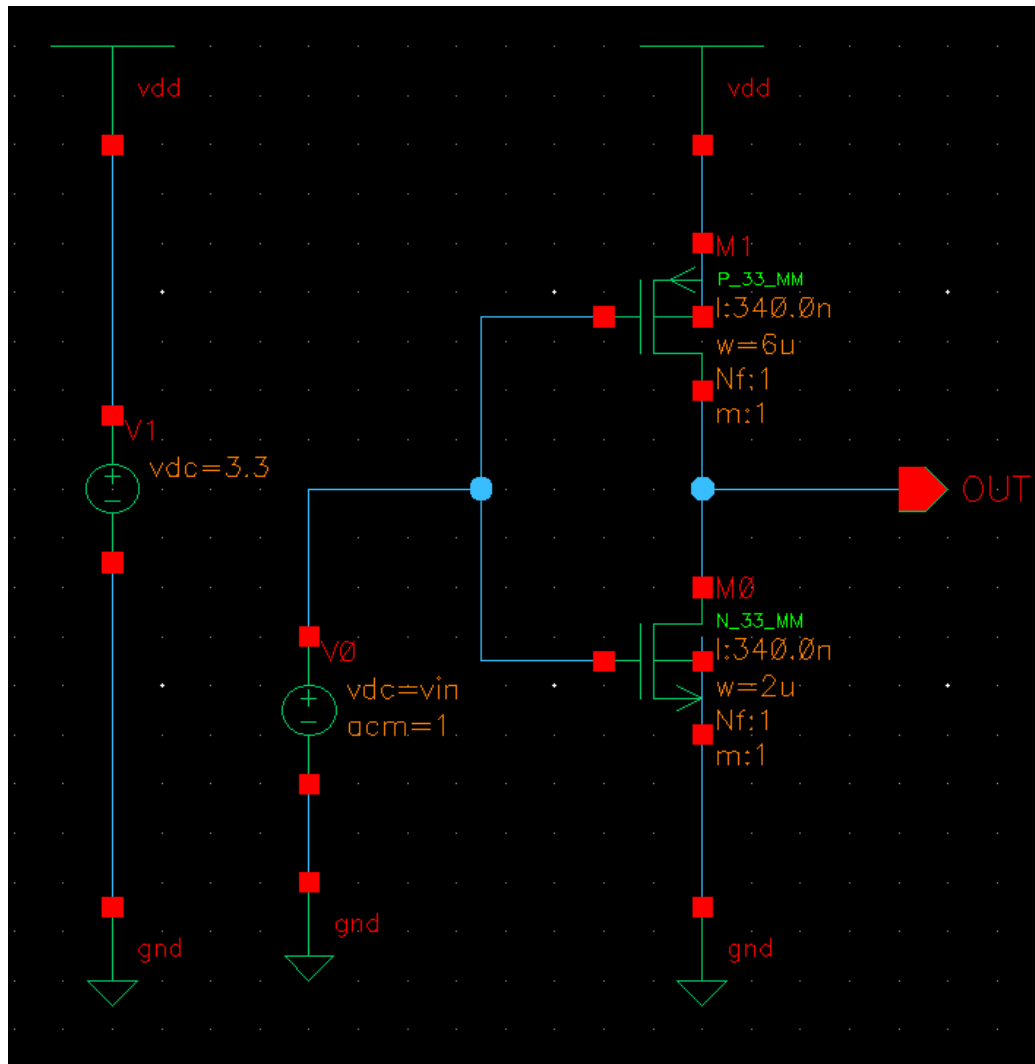
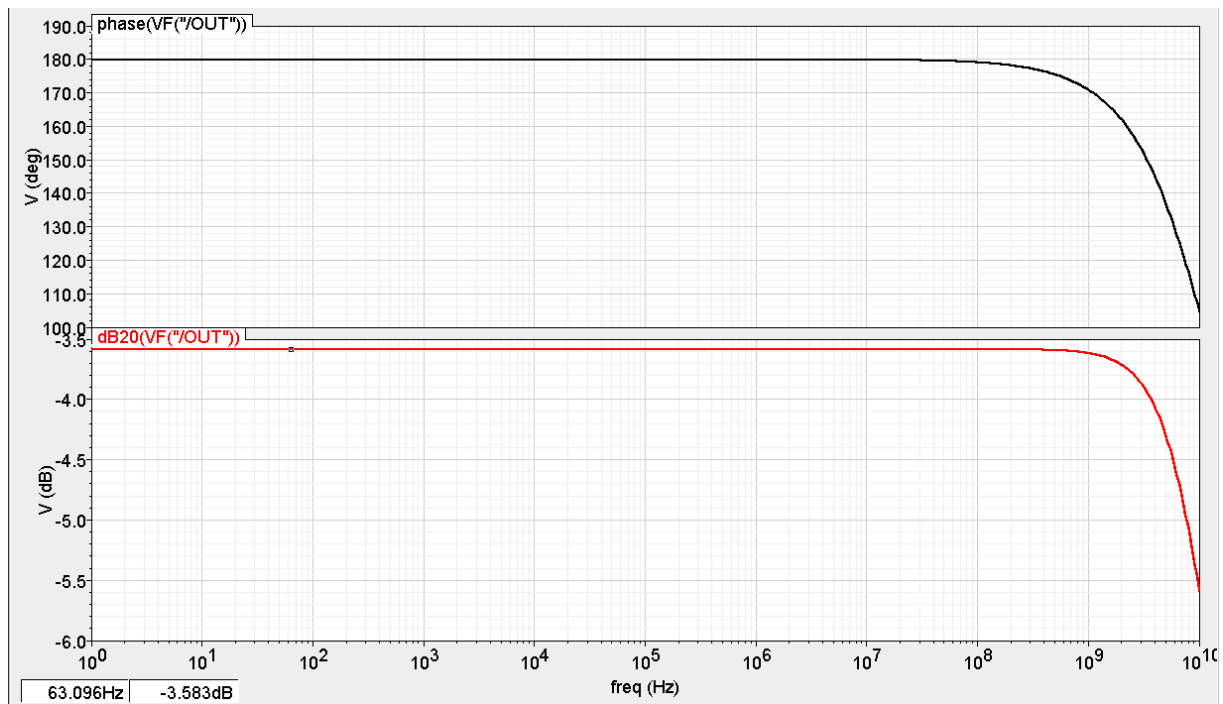

Figure 10: Schematic of an inverter circuit
Figure 13: AC response of the inverter circuit
At this part of the tutorial, information about how you can observe the AC response of the circuit is going to be explained. Figure 10 shows the schematic of an inverter circuit. Let's step by step see how we can observe AC response of this circuit.
6. You should see a waveform similar to the Figure 13 which is the ac response of the inverter circuit shown at Figure 10.